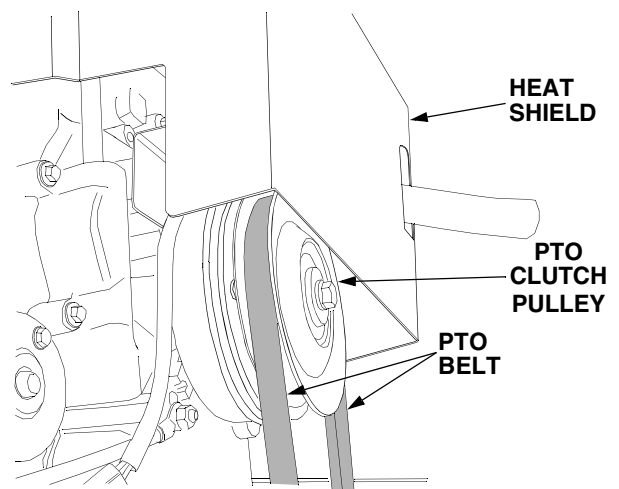

Figure 2-9
- Loop the PTO belt with the narrow side of the 'V' belt inward; then maneuver the loop of the belt up between the front of the PTO pulley and the heat shield on the front of the engine. Place the belt into the groove of the PTO pulley. See Figure 2-9.